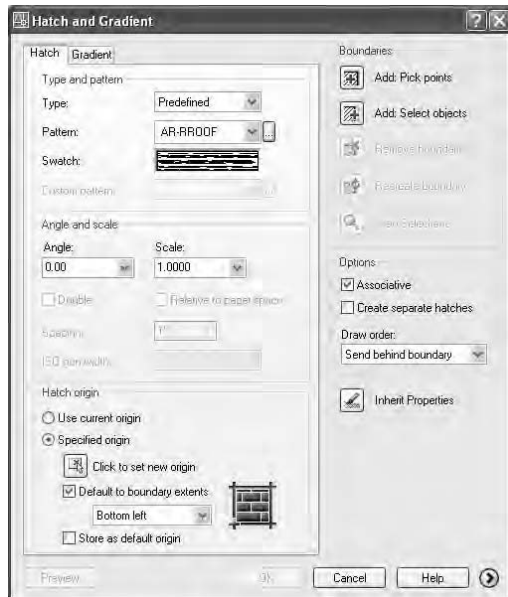

FIGURE 9.3: The Hatch And Gradient dialog box with the AR-RROOF pattern chosen
6. Click the Other Predefined tab. Find the AR-RROOF pattern, click it, and then click OK. Back in the Hatch And Gradient dialog box, note that AR-RROOF has replaced ANSI31 in the Pattern drop-down list. A new pattern is displayed in the Swatch preview box, which is below the Pattern list (see Figure 9.3).